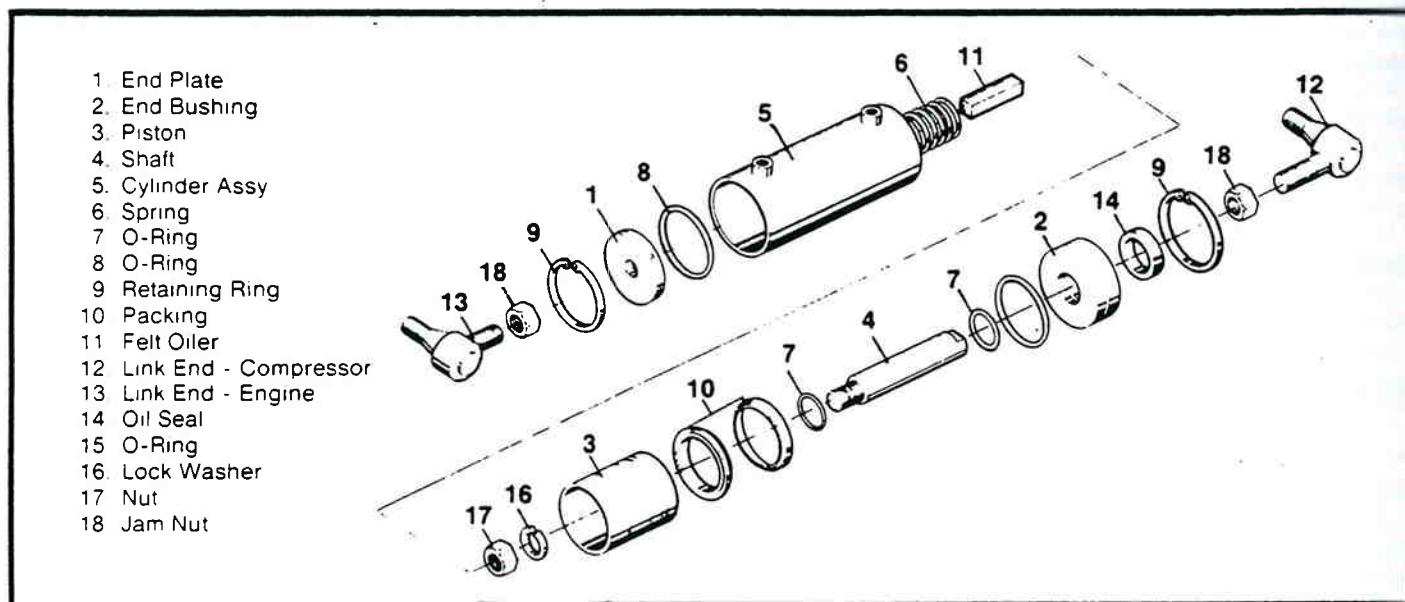

Figure 16-10: Belt Tension Cylinder Components
9. Internal parts can now be removed for cleaning and inspection. See figure 16-10.